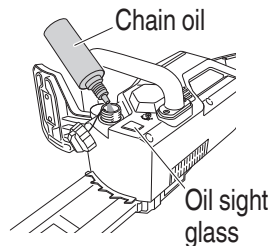

Fig. 17
- This unit is delivered without chain oil inside. Ensure the oil tank is filled with the chain oil provided before use. (Fig. 17)